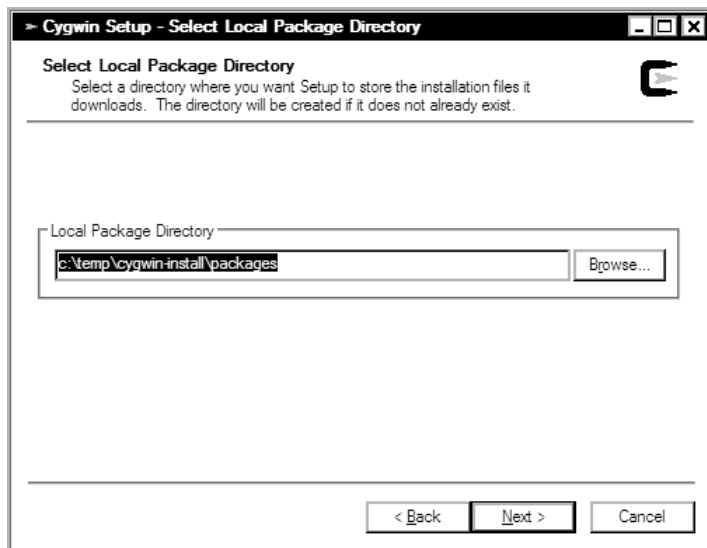

Figure 2-9. *Cygwin installation: selecting a local package directory*
13. The setup program shows the directory where the files were downloaded (see Figure 2-9).